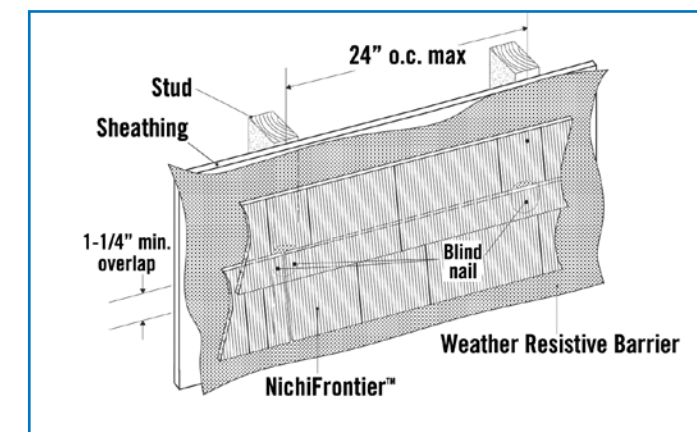

Fig. 10.1
- Fasten from one end of the board to the other. (Fig. 10.1)